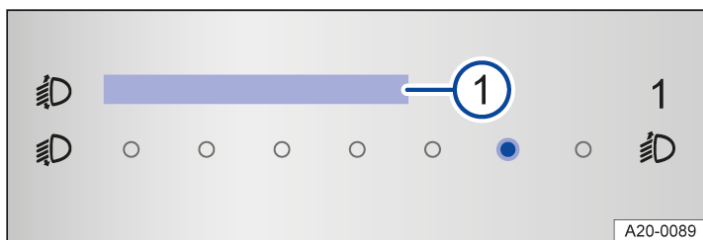

Fig. 1 In the Infotainment system: touch slider for headlight range control.
Depending on the vehicle equipment, the headlight range can be adjusted in the Infotainment system → Fig. 1 ①, → ⚠.
2. Tap the **Lighting** function button to open the Headlight range control menu option → Fig. 1 ①.